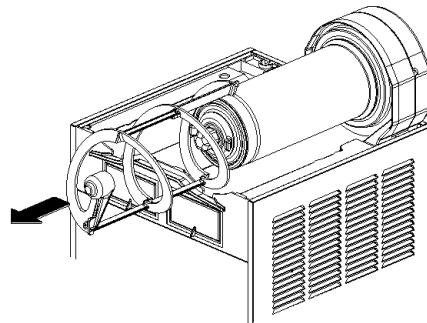
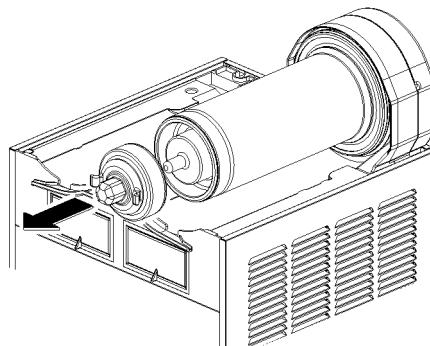

figure 8
figure 9
- 3** Slide the outer spiral out (see figure 8) and then Outside magnetic rotor assembly (see figure 9).